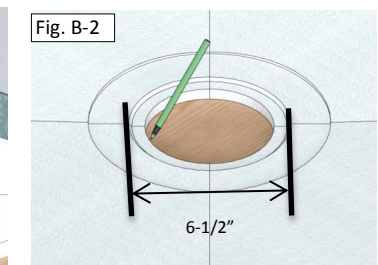

Fig. B-2
- Drain hole in TRAY needs to be 6 1/2" in diameter, if necessary cut away material to increase diameter of hole (Fig B-2)